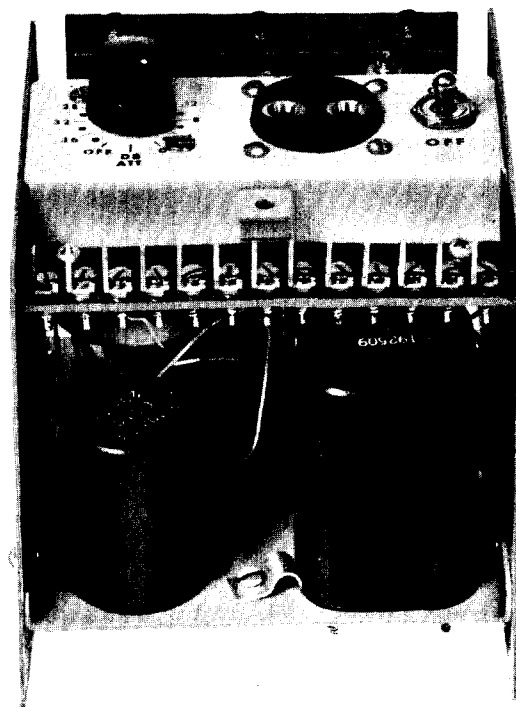

Fig. 1 - List 1 Amplifier
1.05 The KS-16831, List 1 amplifier is designed for use on 5, 8 and 15 kc local program circuits. It consists of a printed wiring amplifier card (KS-16860, List 1 amplifier) which contains the preliminary stages, assembled with the output stage transformer, gain control, input and output transformers, monitoring jacks, terminals, and other components on a small chassis with a removable cover. The unit is arranged for mounting in the KS-16831, List 5 carrying case or on mounting bars on a relay rack. In addition to the main output, a separate independent output for connecting a vu meter and jacks for high impedance headphone monitoring is also provided. The amplifier is designed to operate from a 48-volt battery or from a 120-volt 60-cycle source by use of the KS-16831, List 4 power supply. The external appearance of the amplifier with cover removed is shown in Fig. 1. The amplifier mounted on a bracket for use in a 467-type apparatus case is shown in Fig. 2.